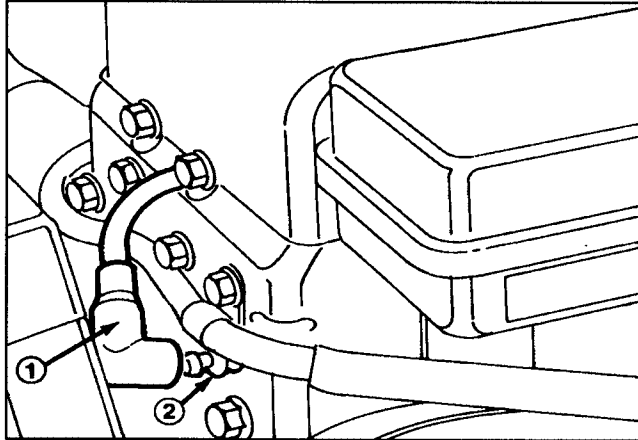

Figure 12
To prevent accidental starting of the engine, while performing maintenance, shut engine off and remove key from ignition switch. Also, pull wire off spark plug (Fig. 12). Make sure wire does not contact plug accidentally.
1. Remove wire from spark plug (Fig. 12).